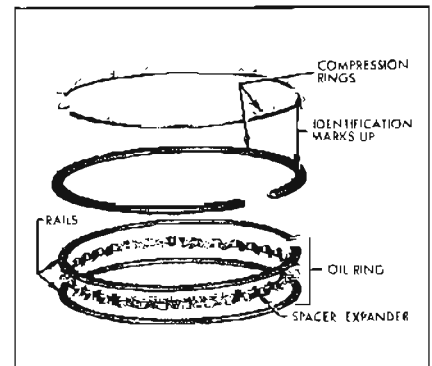

Figure 2-52—V-8 Piston Rings
8. Install V-8 piston rings as shown in Figure 2-52. Position expander ends over piston pin where groove is not slotted, and be absolutely certain that the ends do not overlap. Install oil ring rails with gaps "up" on same side of piston as oil spurt hole in connecting rod. Install compression rings in upper two grooves. If a single chrome plated compression ring is used, the chrome ring must be installed in the top groove.
10. Install compression rings in top and center groove. See Figures 2-52 and 2-53.